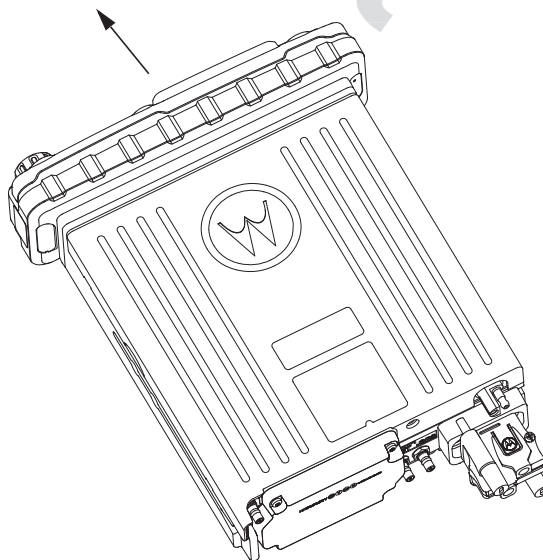

Figure 2-41. Removing the Control Head
3. Firmly grasp the front panel of the control head. Carefully remove the front housing assembly from the back housing assembly as shown in Figure 2-41. Note the position of the attached flex and do not pull on it excessively.